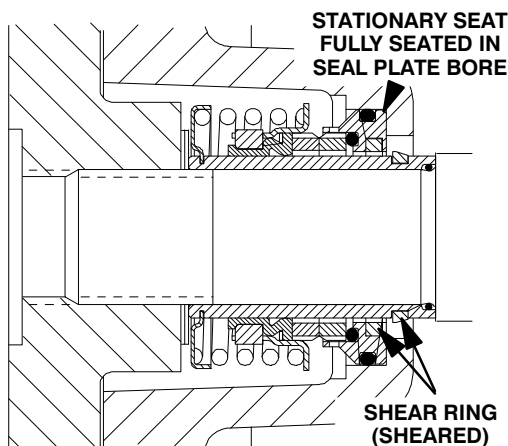

**Figure 6. Seal Partially Installed**
Clean and inspect the impeller as described in **Impeller Installation and Adjustment**. Install the full set of impeller shims (30) provided with the seal, and screw the impeller onto the shaft until it is seated against the seal (see Figure 6).